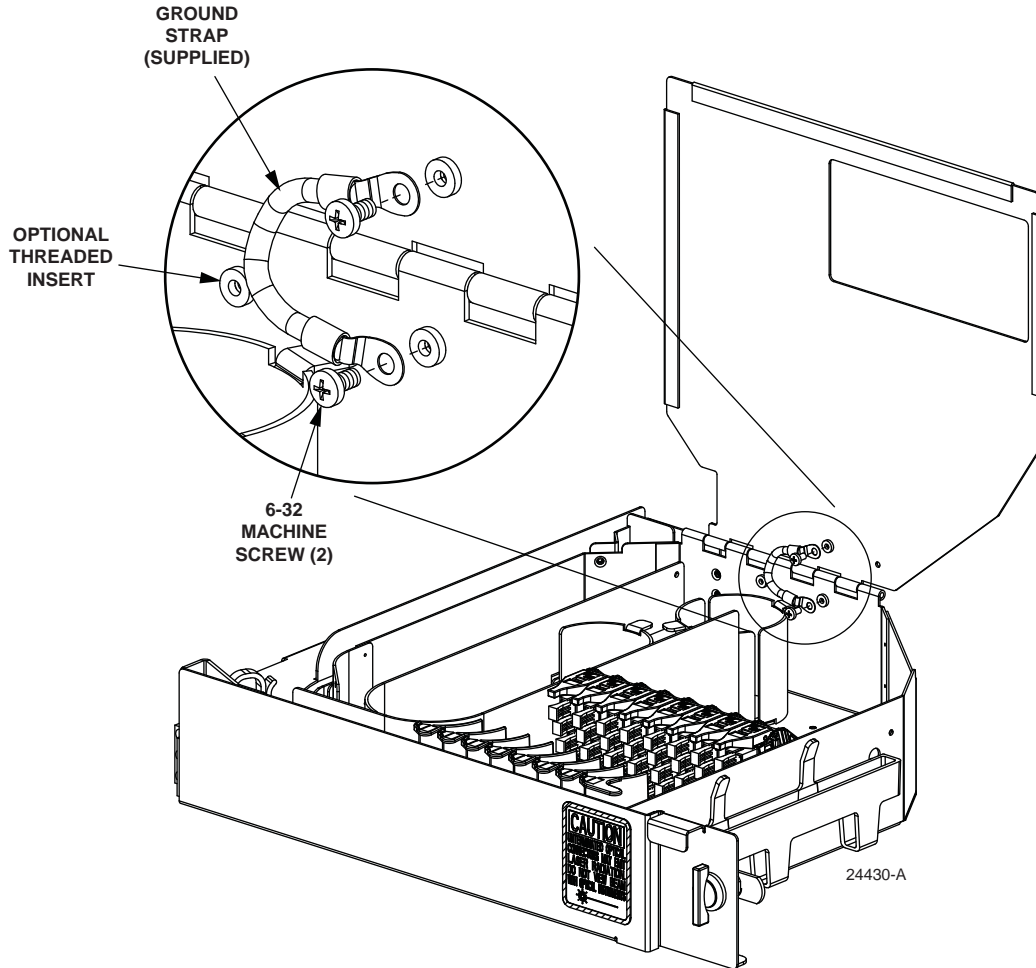

Figure 15. Attaching Ground Strap to Cover
All NG3 panels ship with a grounding kit containing a grounding strap and hardware shown in Figure 15. The grounding strap provided should be attached from the panel chassis to the panel top cover in each panel. In addition to this grounding location, each panel has a grounding stud marked with the standard grounding symbol on the rear of the panel. Because of the wide variation of mounting configurations, this second grounding strap is not provided. The customer should locate and install a grounding strap based on the configuration being used. Use the following procedure.
1. Attach the ground strap provided to the panel and panel cover with two 6-32 machine screws. Bend the ground strap as shown in Figure 15 so that the cover will swing freely when both open and closed. There are two threaded inserts in the tray to choose from. Use the one that works best for your product configuration.